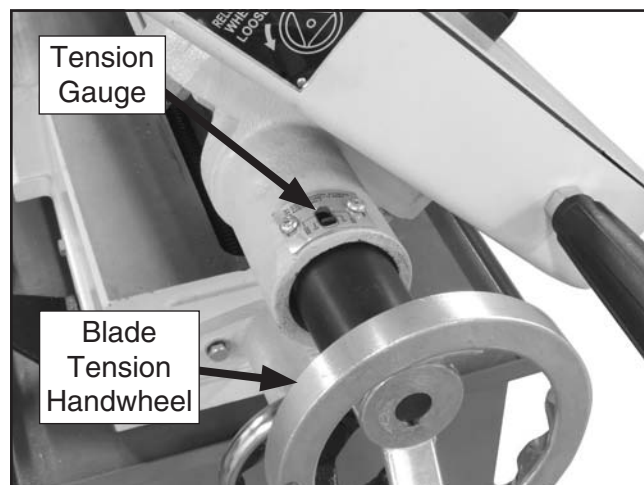

Figure 29. Adjusting blade tension.
4. Turn the tension handwheel in **Figure 29** clockwise to tighten the blade or clockwise to loosen the blade.